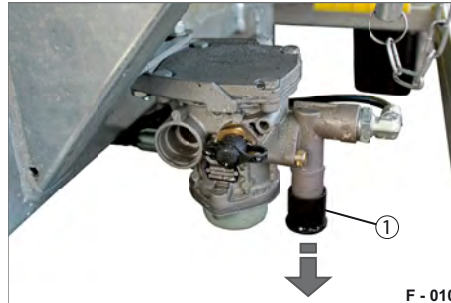

Fig. 9 Service brake in drive position
- Pull the release valve (Fig. 9/1).